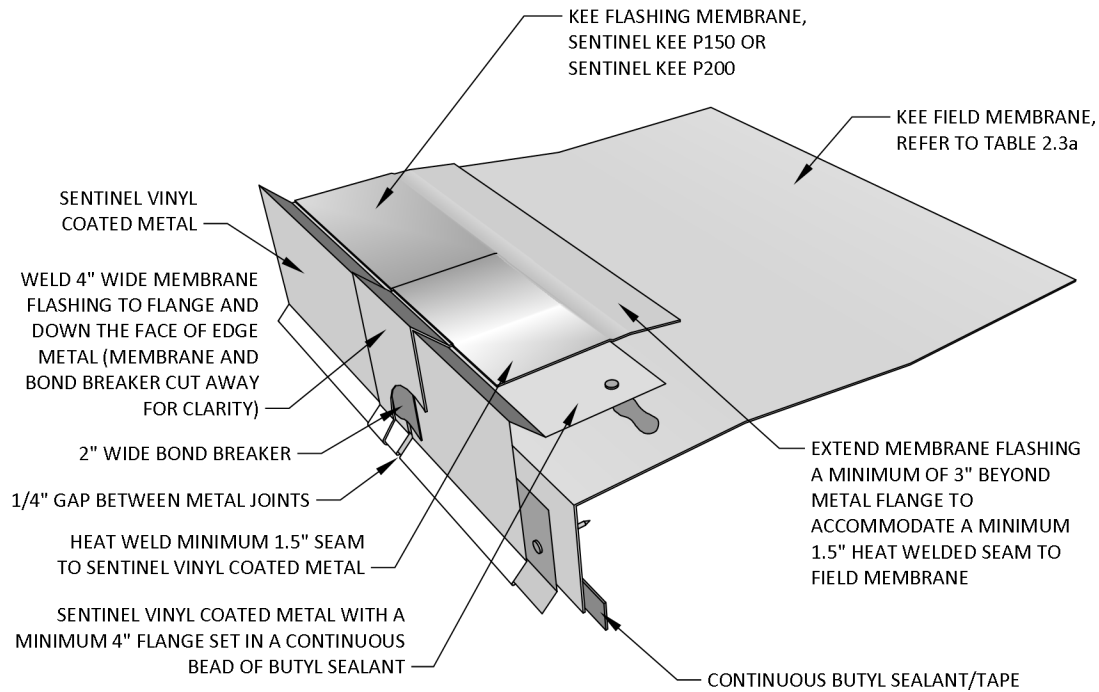

*Figure 2.3a Induction Welded KEE Field Membrane with Adhered Flashing Membrane at Wall/Curb and Horizontal Perimeter Fastening*
- Install fasteners and stress plates as required for wind uplift requirements. Refer to Figures 2.3a through 2.3i.